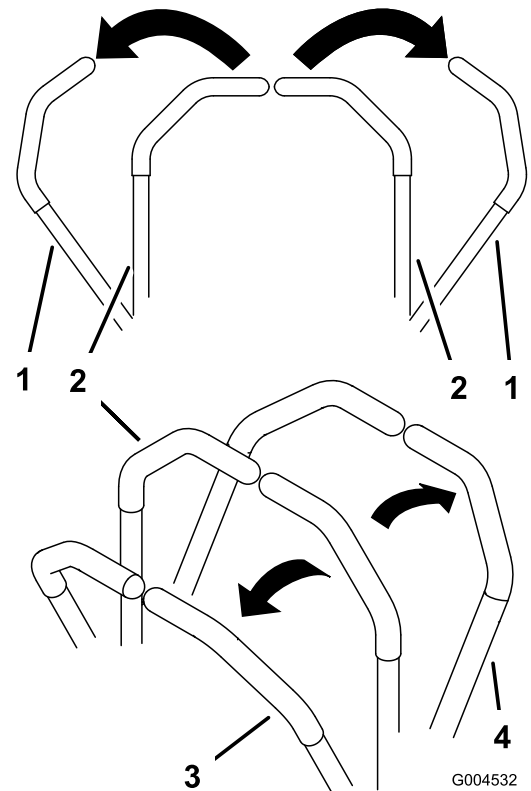

Figure 16
1. Move the motion control levers (Figure 16) out to the neutral locked position.
- To go straight forward, slowly push the motion control levers forward (Figure 16).
- To go straight rearward, slowly pull the motion control levers rearward (Figure 16).
- To turn, slow the machine by pulling back on both levers and then push forward on the lever on the opposite side from which you want to turn (Figure 16).